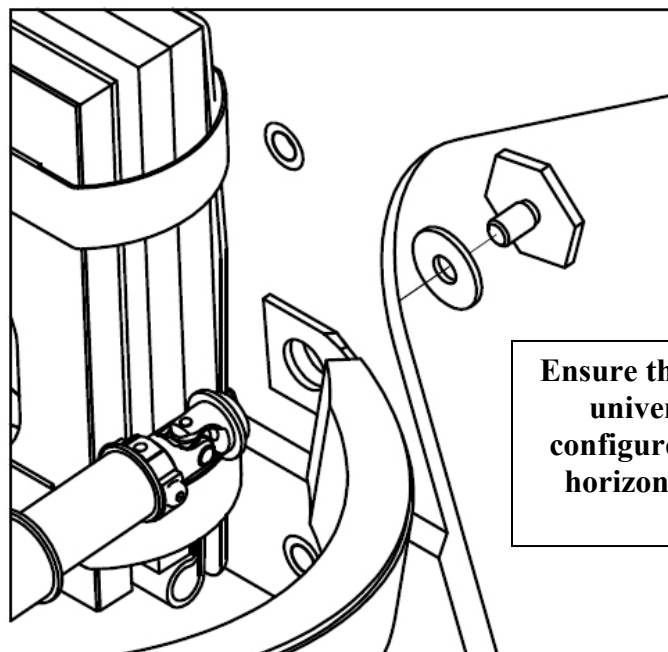

Figure 6-51. Install Rib #2 at sternum
6.2.2.44 Install M5 clip nuts on the ends of Rib #2. Insert the M5 x 15 x 1.2 flat washers and M5 x 0.8 x 12 BHCS through the rib ends and loosely tighten (Figure 6-51).